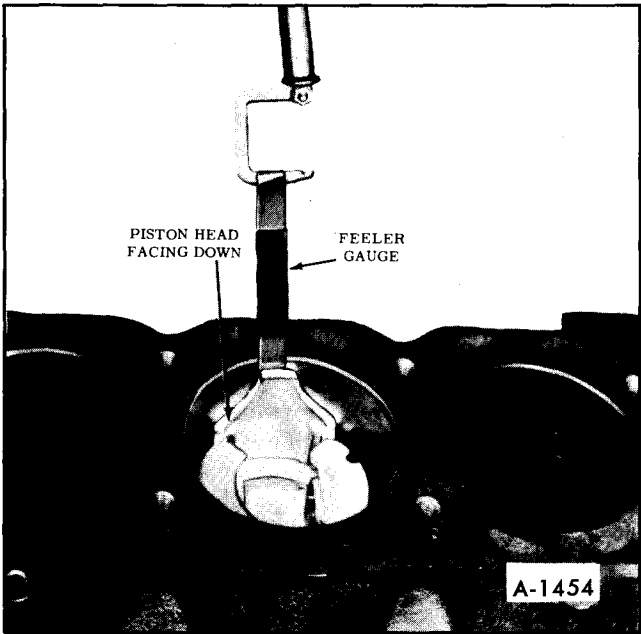

Figure 47—Checking Piston Clearance
6. Remove four (4) crankshaft pulley bolts and remove pulley.
8. Using balancer puller, remove balancer as shown in Figure 47.